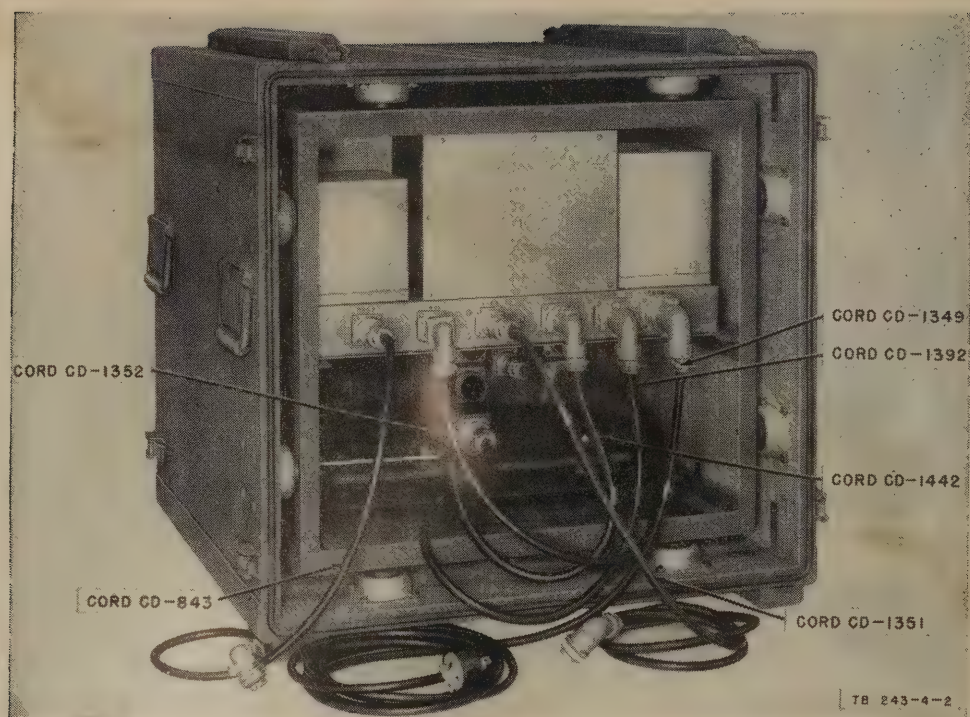

Figure 187. Chest CH-300, rear view, cover off.
f. Before connecting the cords, refer to the cording diagram on the inside of the rear cover of Chest CH-300. Also refer to figures 187, 190, and 193, which show cord receptacles.